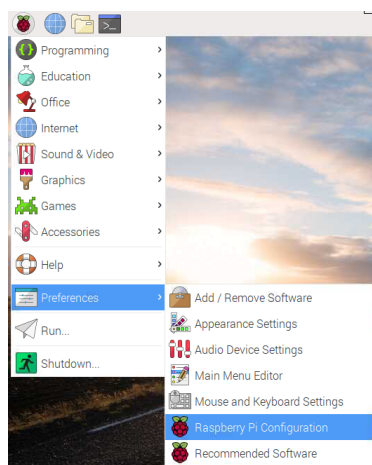

Figure 16.5: Raspberry Pi Configuration Menu
2. Go to the main menu and open the **Raspberry Pi Configuration** tool as shows in Figure 16.5.